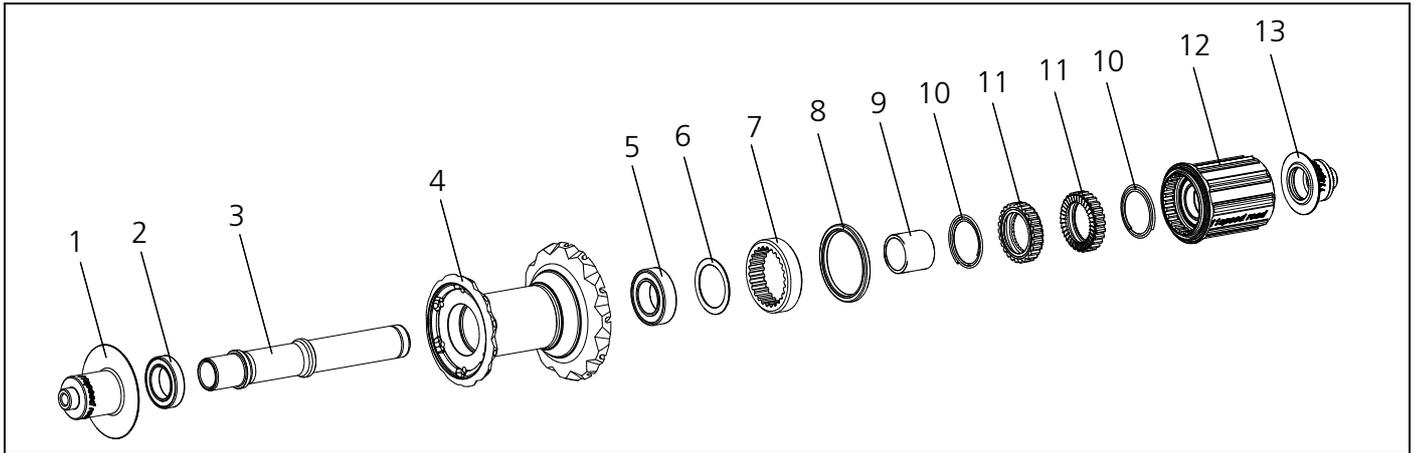

Figure 3-1: DICUT Hub
2. Clamp the end cap (fig. 3-1/13) into the axle holder.
4. Pull off the rotor (fig. 3-1/12) with one of the both springs (fig. 3-1/10) by hand.
5. Remove both ratchets (fig. 3-1/11).
6. Remove the spacer (fig. 3-1/9) and the second spring (fig. 3-1/10).
1. Clean the star ratchets (fig. 3-1/11), check for wear and change them if necessary.
2. Check the rotor (fig. 3-1/12) for damages.
1. Apply DT Swiss special grease evenly to the outer and the inner tothing of the star ratchets (fig. 3-1/11) using a fine brush.
3. Grease the tothing of the threaded ring (fig. 3-1/7) with DT Swiss special grease.
4. Put on the spacer (fig. 3-1/9) and the first spring (fig. 3-1/10).
5. Slide both ratchets (fig. 3-1/11) onto the axle.
8. Push the end cap (fig. 3-1/13) onto the axle.